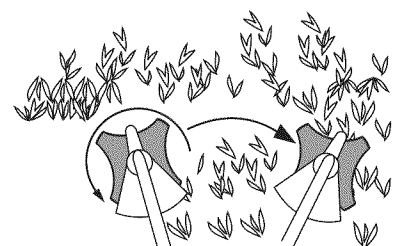

Fig. 20
- Swing the unit into material to be cut from your left to your right (Fig. 20).